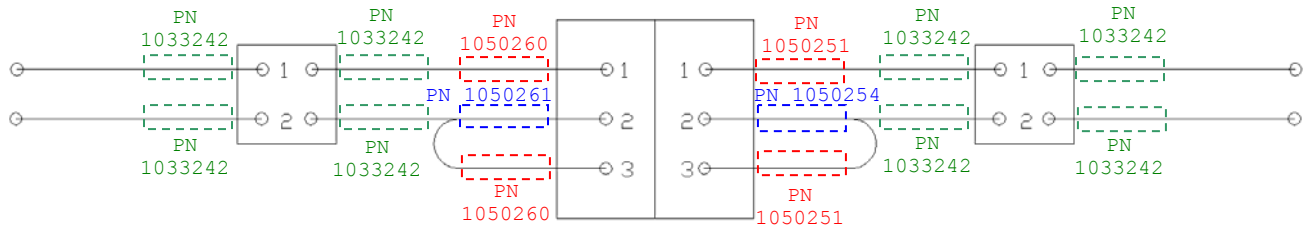

FIGURE 3: OVERALL SOLDERING REQUIRED FOR TESTING
- 6.11 SOLDER THE WIRES ONTO THE LOW PRESSURE SIDE PINS OF THE PENETRATORS AS DEPICTED IN FIGURE 3. ENSURE THE SOLDERED JOINTS ARE CLEAN AND SLIDE THE BOOT SEALS ONTO THE SOLDER POTS.
- 6.14 CREATE A CLEAN WATER BATH CAPABLE OF HOLDING THE ENTIRE VOLUME OF THE ASSEMBLY SEEN IN FIGURE 3.